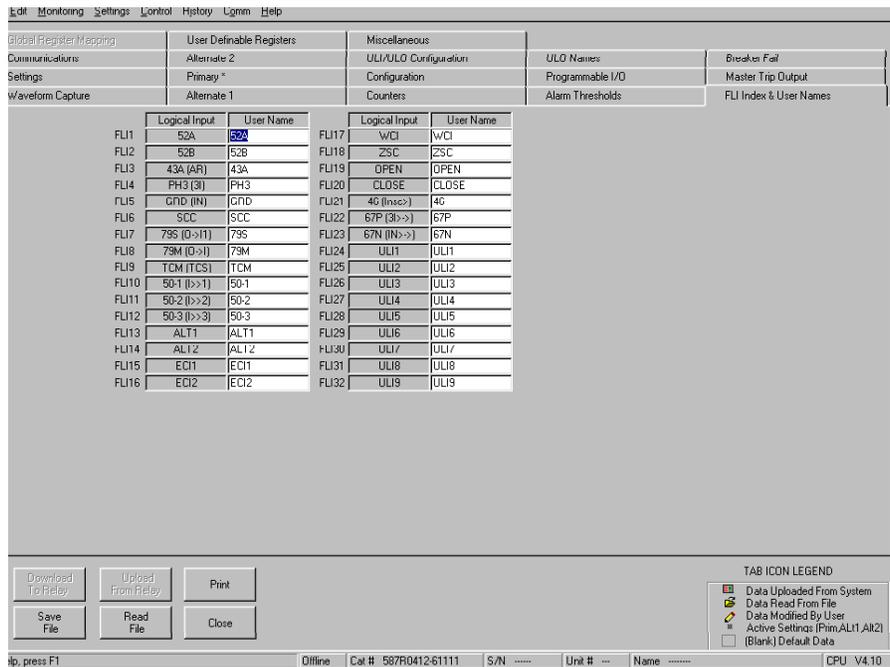

Figure 5-3. WINECP Default FLI Logical Input List
2. A list of default mappings are shown as in Figure 5-3 (ECP Screen) In this case the user is viewing the screen in ECP as shown in the CHANGE SETTINGS Screen.